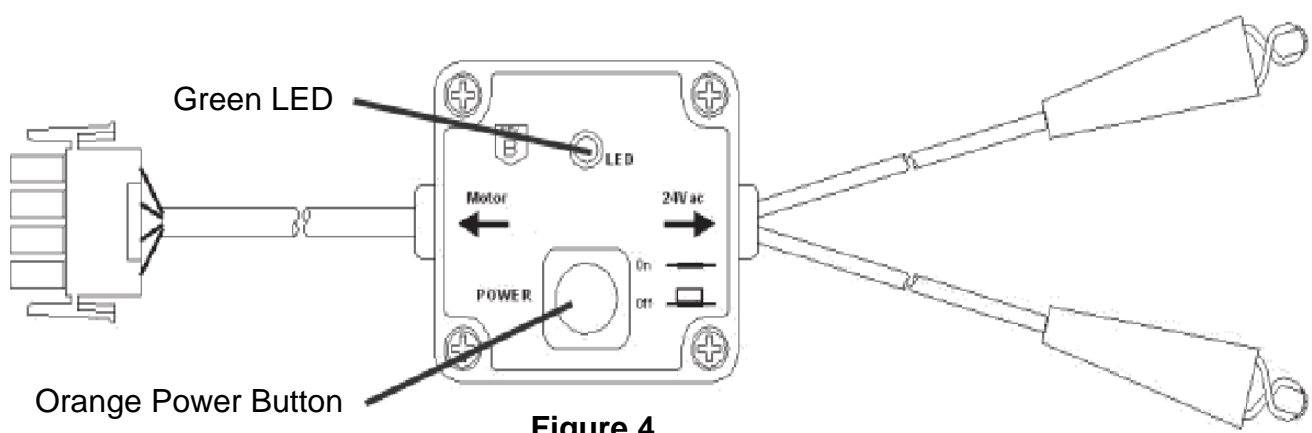

Figure 4
- Use the scenarios below to determine needed action. Complete steps 8-11 before proceeding to the next check. Press the orange button [Figure 4] on the UltraCheck-EZ® diagnostic tool and wait five seconds for the blower to spin.
- Press the orange button [Figure 4] again to stop the blower and turn off the UltraCheck-EZ® diagnostic tool.